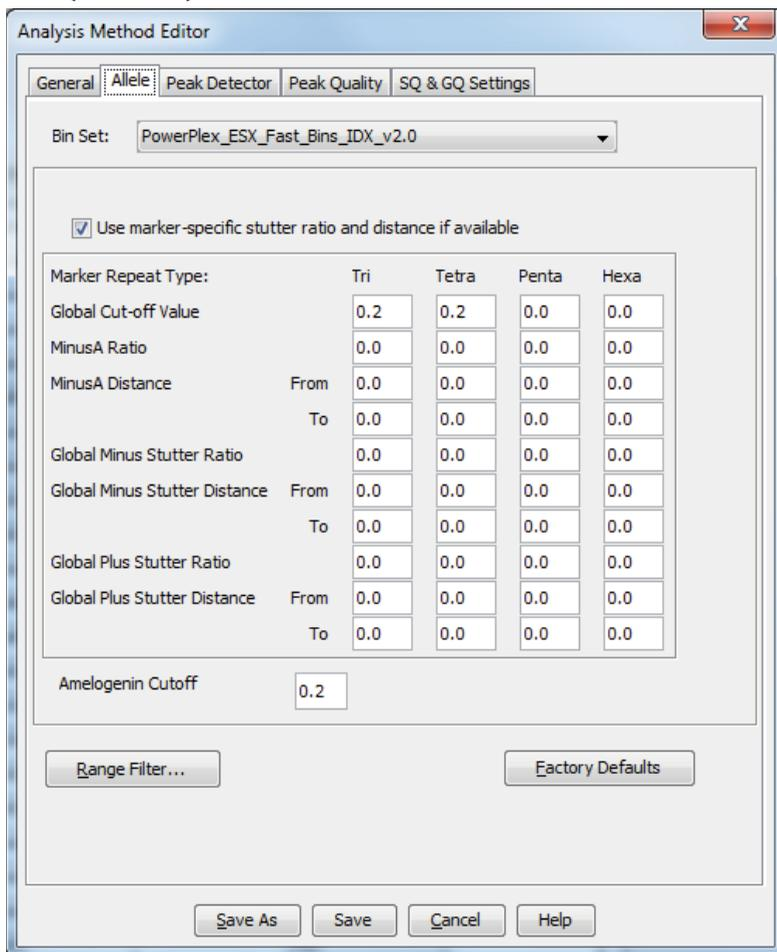

Figure 15. The GeneMapper® ID-X ‘Allele’ tab with settings for using a 20% peak filter.
6. Select the 'Allele' tab (Figure 15).
8. We recommend the values shown in Figure 15 for proper filtering of stutter peaks when using the PowerPlex® ESX 17 Fast System. Ensure that the "Use marker-specific stutter ratio and distance if available" box is checked. Doing this will assign locus-specific stutter filters and distances from the imported stutter file. Ensure that the appropriate global filter is applied to the analysis method. For example, for a 20% filter enter "0.20" for the Amelogenin Cutoff and Global Cutoff Value for Tri and Tetra repeats (Figure 15). In-house validation should be performed.